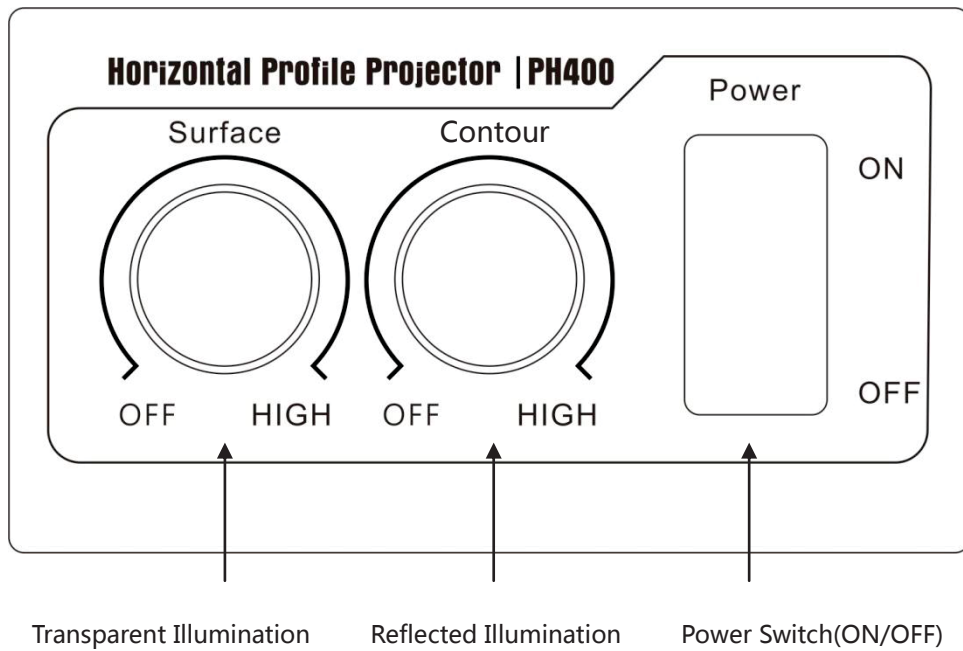

Fig 4
3.2.2 Operation Panel (as Fig 4)